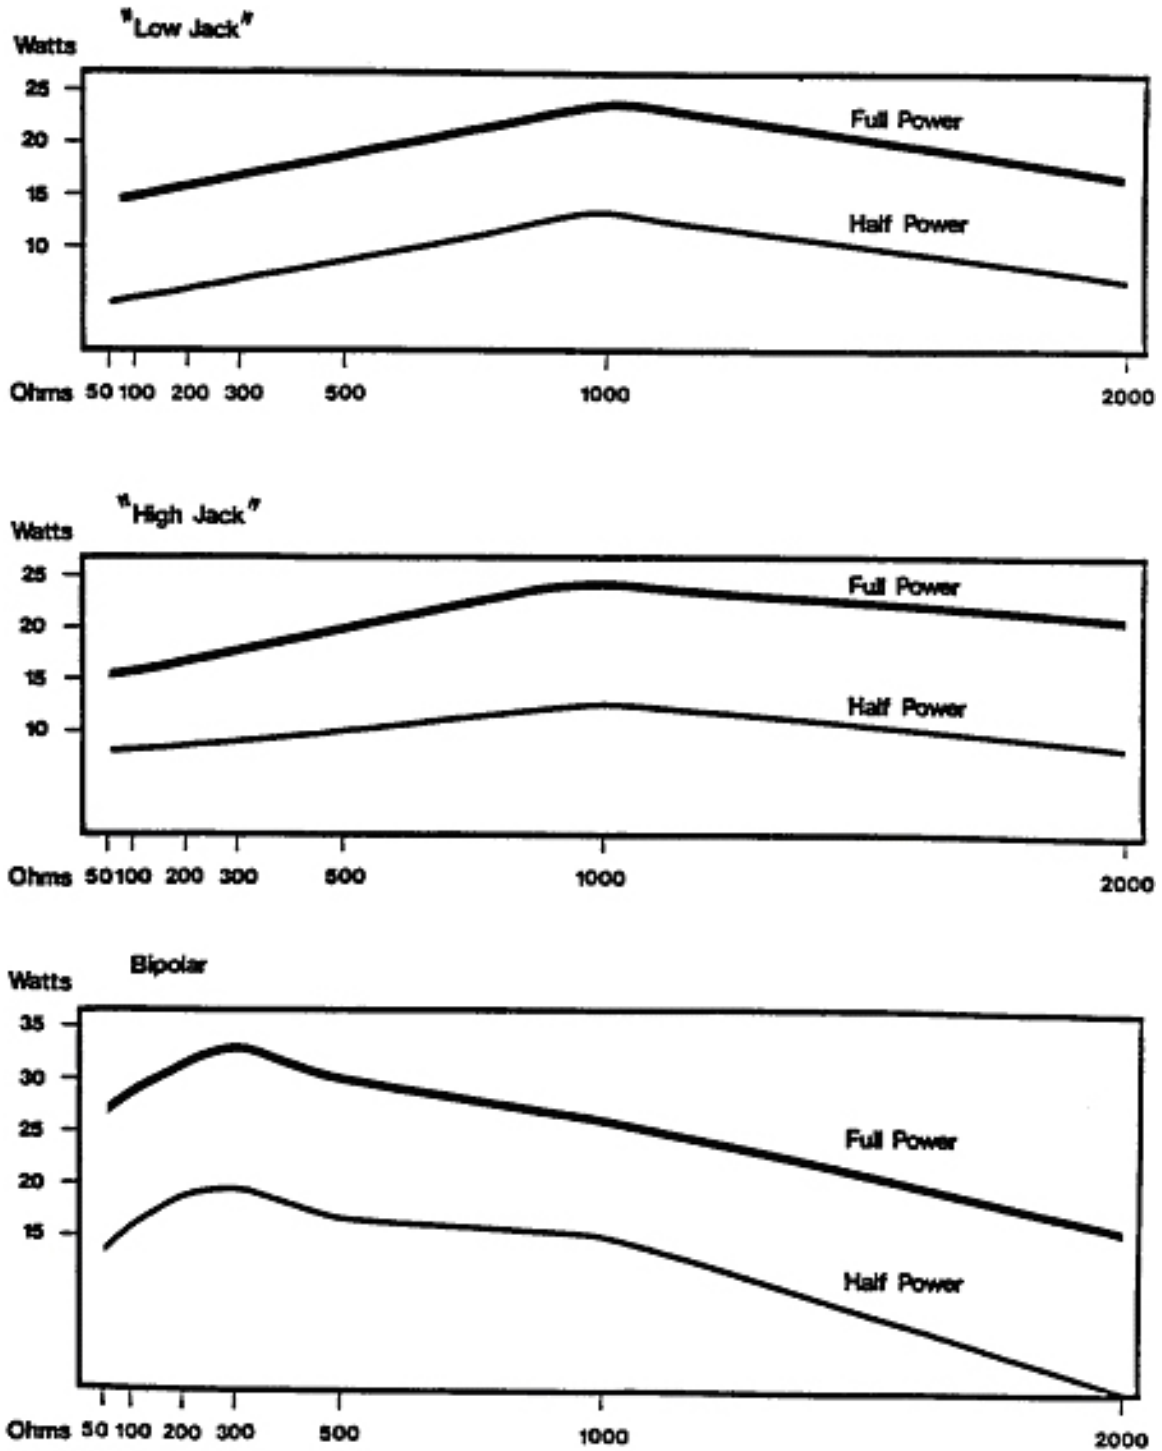

Figure 2-3. Output power load variation.
- (2) Critically inspect test point TP4 for a heavily damped sinusoid. This damping occurs whether the output is loaded or open circuited. With a dial setting of half scale, and the output loaded, the first sinusoid completed is about 400v peak. The second sinusoid is about 100v peak. With an unloaded output, the damping of the wave shape goes virtually to zero volts in 5 cycles.
- (3) If the above conditions are not met on full power output (30w bipolar), check transistors Q5, Q4, and Q3 in that order for a possible shorted condition. Check CR9 and CR14 if needed.
d. **Test Points and Locations.** When testing power outputs, you should see, on an oscilloscope, the signals shown in figures 2-3 through 2-5.